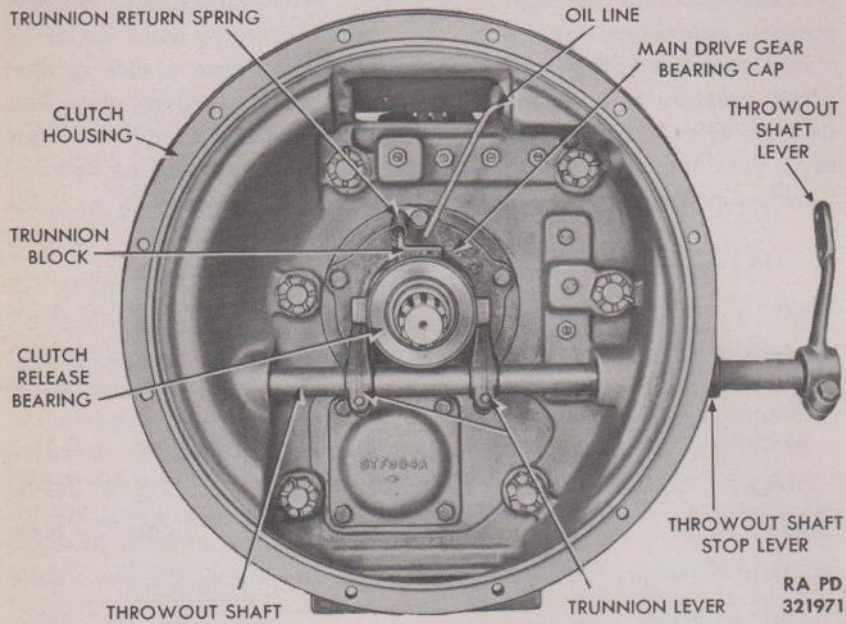

Figure 2 — Clutch Housing Assembly
a. **Description** (figs. 2 and 4). The single-disk type clutch, located between the engine and transmission, consists of a pressure plate assembly, disk, pilot bearing, throwout shaft and trunnion levers, and a clutch release bearing. The pressure plate assembly, consisting of a conical spring compressed against an adjusting plate and a clutch release sleeve, is attached to the clutch flywheel ring by six flywheel ring adjusting straps and nuts. Shims for adjusting the distance between the clutch release sleeve and the rear of the flywheel ring are placed under these adjusting straps. Twenty clutch pressure levers with a fulcrum ring ball in each lever are held in position between two fulcrum rings and secured to clutch release sleeve by a snap ring. The pressure levers rest against the clutch pressure plate with studs protruding through flywheel ring. Pressure plate retracting springs are placed over pressure plate studs and secured with retaining pins and washers. The clutch disk facings, composed of an asbestos composition reinforced with copper wire, are attached to the clutch disk with rivets. The splined bore of the disk hub rests on the main drive gear spline. A clutch pilot bearing (which is packed with a special heat-resistant grease) is pressed into the bore of the flywheel and provides a seat for the main drive gear. The clutch throwout shaft and trunnion levers are located in the clutch housing attached to the transmission. Bushings are used for seats of the throwout shaft. The clutch release bearing is pressed into a trunnion block which is seated on the main drive gear bearing cap. A return spring is attached to the trunnion block and a cap screw on the main drive gear bearing cap.
- c. Remove Clutch Release Bearing (fig. 2). Free the clutch release trunnion return spring. Slide trunnion block with attached clutch release bearing off main drive gear bearing cap.
- d. Remove Clutch Housing Assembly (fig. 2). Remove cotter pins and nuts attaching clutch housing to transmission case. Lift off clutch housing.
a. **Install Clutch Housing** (fig. 2). Attach clutch housing to transmission case with nuts and cotter pins.
b. **Install Clutch Release Bearing** (fig. 2). Slide trunnion block with installed clutch release bearing onto main drive gear bearing cap. Attach trunnion return spring to main drive gear bearing cap cap screw. Test clutch trunnion levers (par. 14).
a. **Check Contact of Levers** (fig. 2). Check contact of clutch trunnion levers and lugs on clutch release trunnion block. Insert a feeler between each lug and lever at the same time. Uneven contact will not permit the block to slide freely and poor clutch engagement